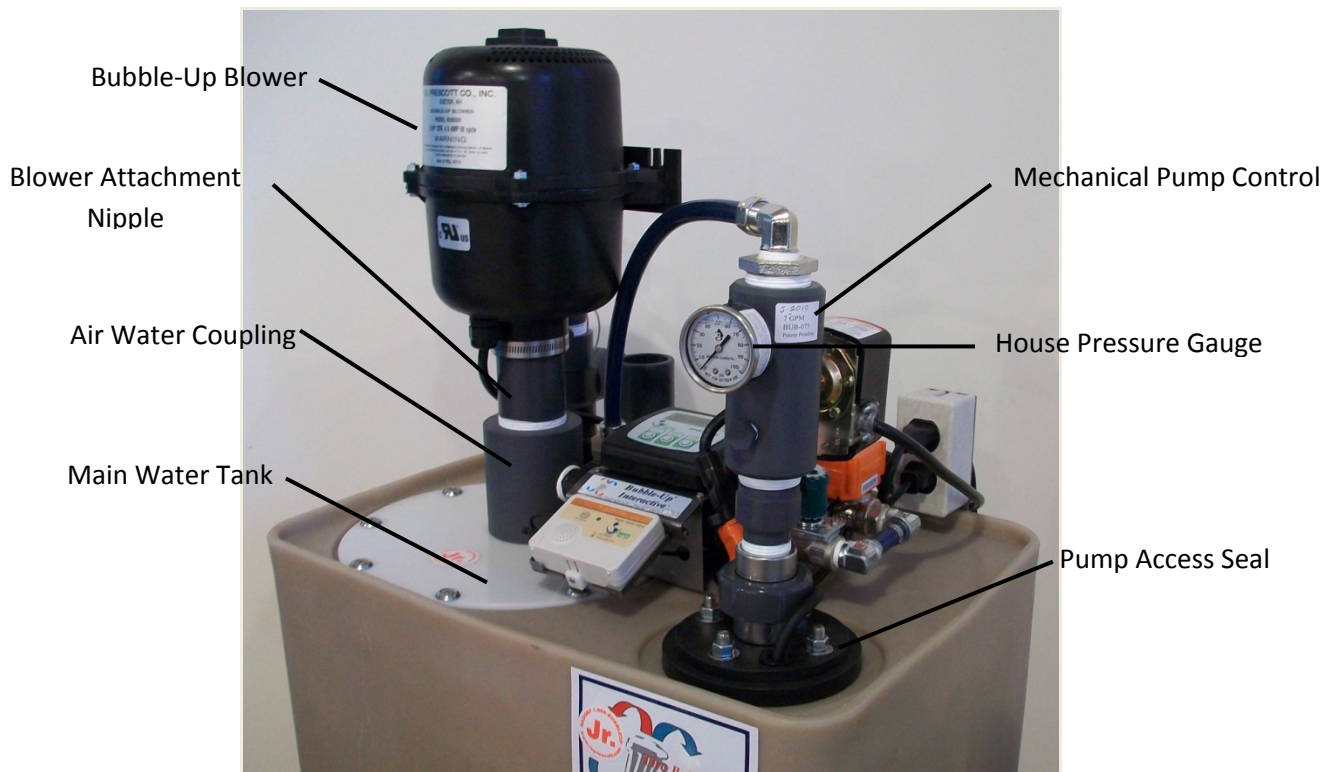

Figure 7 - Installation Points
10. Pour one ounce of bleach into the blower attachment nipple to disinfect the unit. See Figure 7 for location of blower attachment nipple.
7. Undo the water inlet line at the point where it meets the air-water coupling below the blower. See figure 7.
5. Loosen the 4 nuts on the pump access seal. See figure 7. Do not remove the top nuts so that the bolts do not fall into Bubble-Up® Jr Interactive™ main water tank. Note that the direction of the float switch cord is towards the air-water coupling so that it can be re-installed in the same position.
Figures 7 through 15 list some of the replacement parts on Bubble-Up® Jr Interactive™. Figures 16 and 17 show the parts included in the Retrofit Kit. This kit is used to upgrade a Bubble-Up® Jr XP to a Bubble-Up® Jr Interactive™. See dealer for more information regarding this Retrofit Kit. There is a parts list on pages 17 and 18. Here are some points to keep in mind when replacing parts: